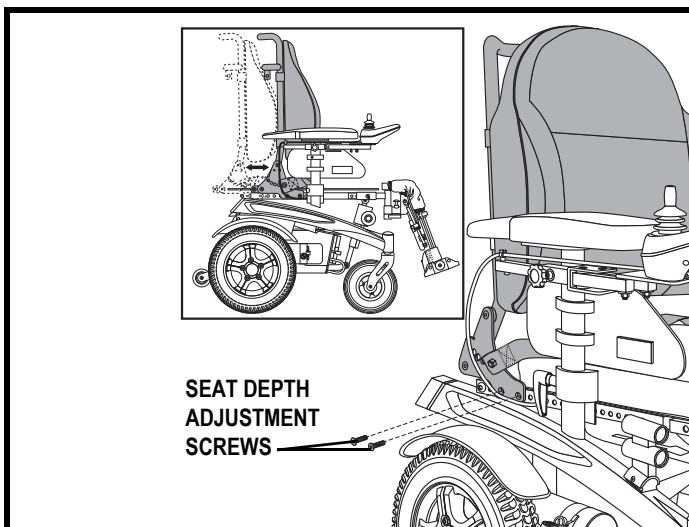

Figure 13. Seat Depth Adjustment
2. Remove both seat depth adjustment screws from each side of the seat. **See figure 13.**